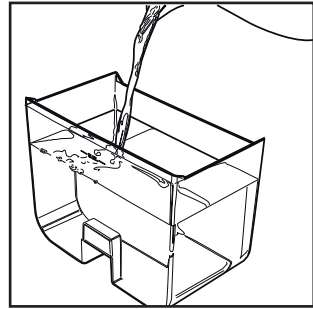

Fig.3
- **(Fig.3)** - Mix the descaling solution with water as specified on the pack of the descaling product and fill the water tank; insert the tank into the machine.